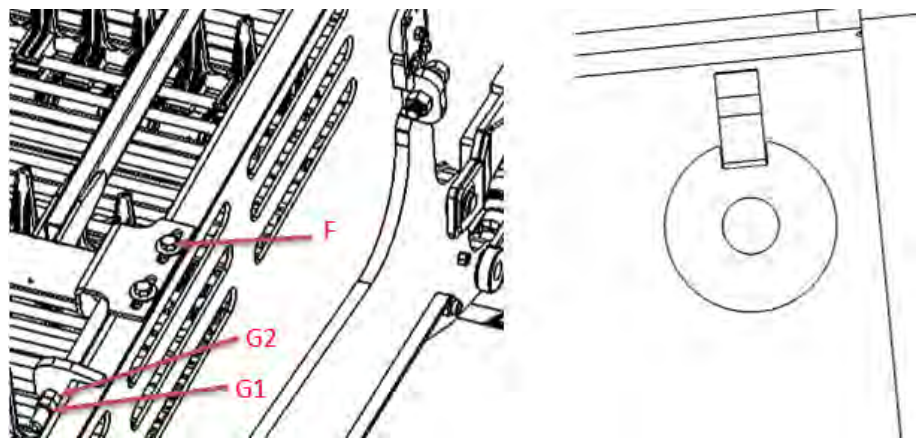

Figure 7-5: Tension System and Hole Line Up
2. Use the second  $\frac{5}{8}$ " nut(G2) to line up the holes as shown in Figure 7-5 by either tightening the nut to draw the upper section of the elevator up or loosen to drop it down.